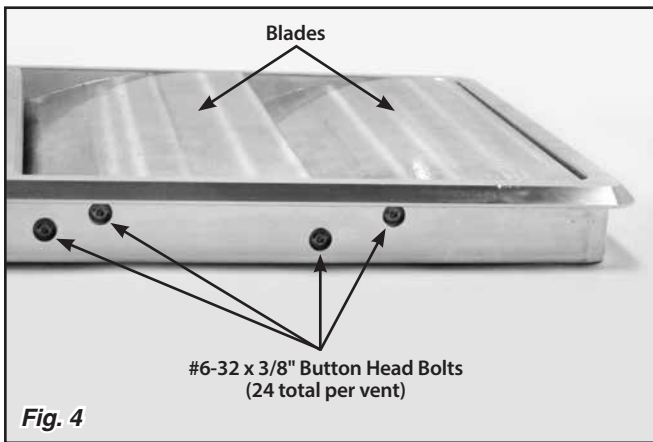

Fig. 4
Step 2: Now you can see the #6-32 x 3/8" button head bolts (24 per vent) that attach the blades to the ring (4 bolts per blade). **Fig. 4**